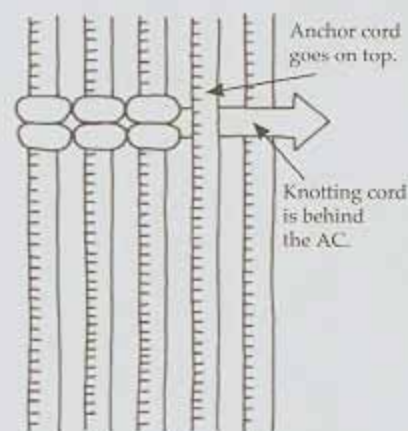

Fig. 12
6. The Vertical Double Half Hitch - The **VDHH** is a **DHH** turned up on it's side (see Figure 11).. Up until this point the contrasting 36" cord has served as your Anchor Cord and the vertical cords 1-8 have served as your Knotting Cords. For **VDHHs** the opposite will be true. Now the horizontal cord will serve as the **KC** and each of the vertical cords in turn will serve as **ACs**. And just like with the **DHH**, the most important first step to remember when making a **VDHH** is to get the **KC** (horizontal cord) and the **AC** (vertical cord) into their correct positions before starting to make the knot. As I mentioned before, this occurs naturally when making horizontal rows of **DHHs**. But when you are making rows of **VDHHs**, the cords will not be in the correct position so you have to take the extra step at the beginning of each knot to put them into their correct position, bringing the vertical **AC** in front of the horizontal **KC** (see Figure 12). Make back and forth rows of **VDHHs** until they become easy for you.